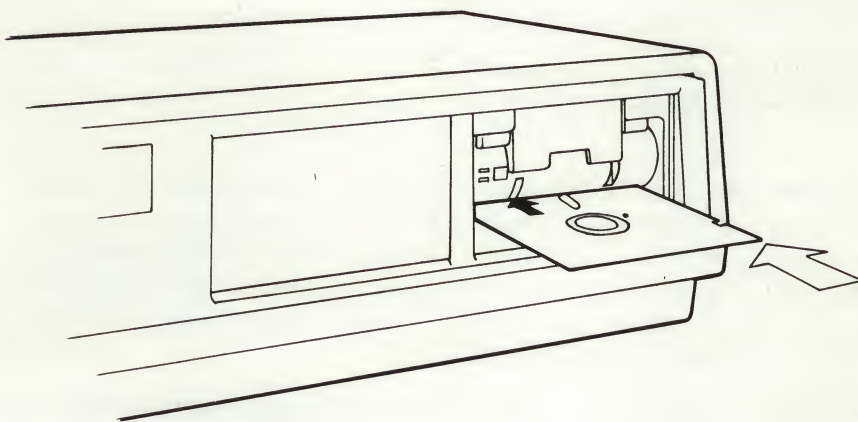

Figure 4 Insert Diskette into Drive B
- 2 Insert a blank diskette into drive B (see Figure 4). Then close the door to drive B and press the **Do** key.